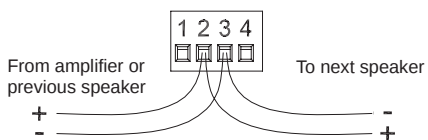

Figure 6:
1. Wiring in parallel. Connect the wire pair of the subsequent speaker to pins 2 and 3. When one input connector is removed, subsequent speakers will remain connected. See Figure 6.